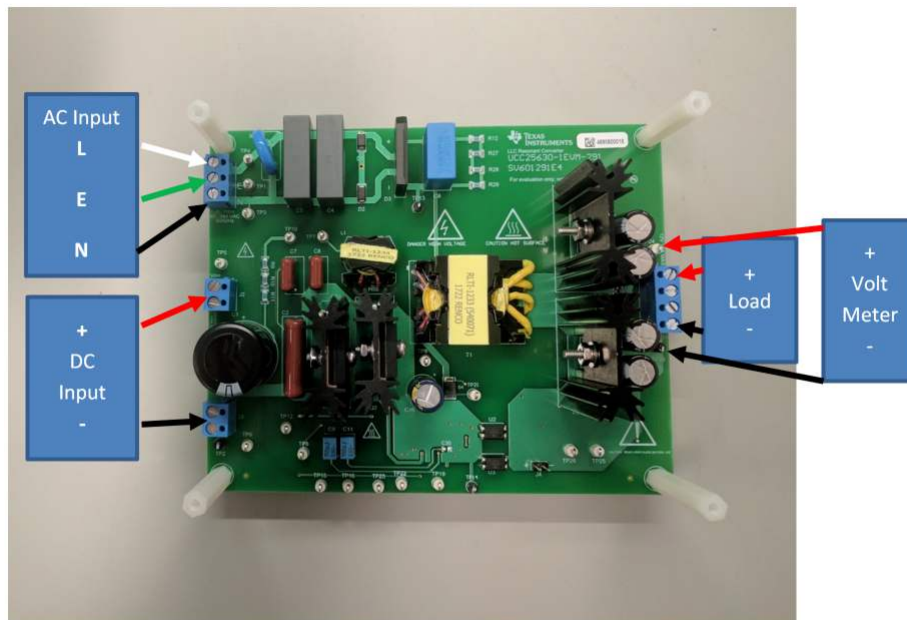

Figure 3. UCC25630-1EVM-291 Recommended Test Setup With Load
1. Refer to Figure 3 for basic setup. The required equipment for this measurement is listed in Section 5.1.